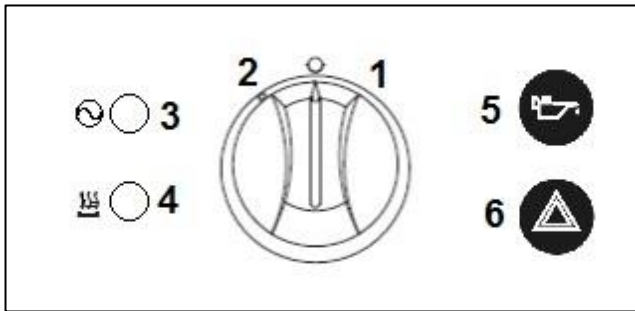

Figure 3 – E3840X & E3840FX Control Panel
2.3.2 E3840X & E3840FX Fryer Control Panel (See Figure 3)